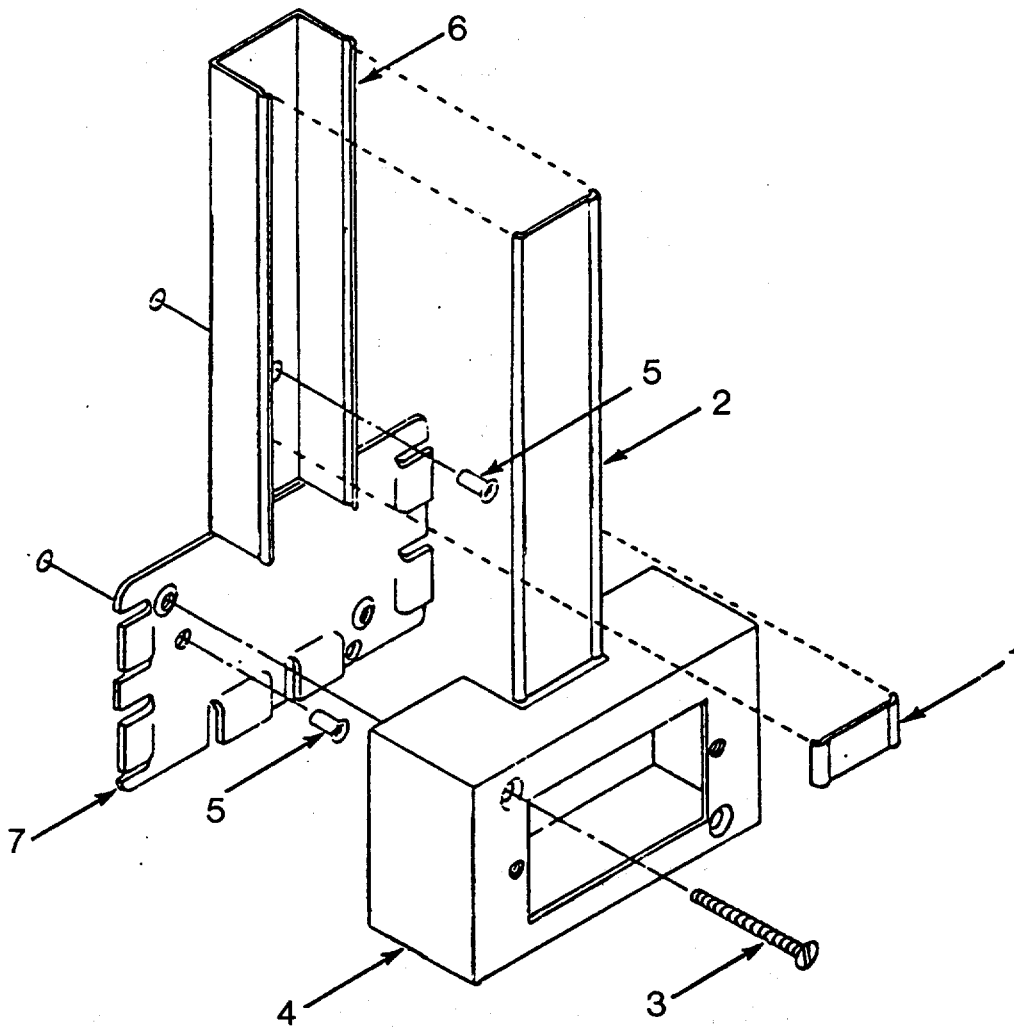

Figure 5-10. Utility Boxes
(4) Replace Utility Boxes. (See Figure 5-10.)